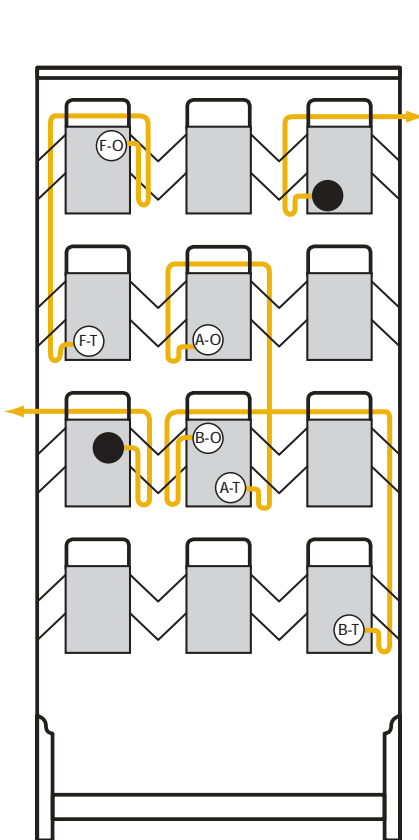

Figure 1 Routing on same side of frame
Use Figure 1 as a guide when following the instructions below:
3. Route the jumper through the left side of the fanning strip on the originating block if the terminating block is either to the right or below (See Figure 1, A & B routes). Route the jumper through the right side of the fanning strip on the originating block if the terminating block is to the left (See Figure 1, F route).